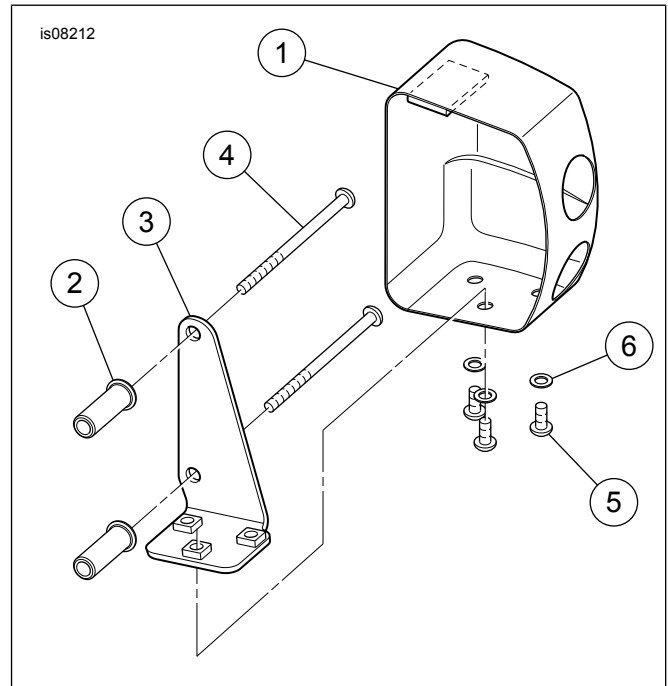

Figure 1. Service Parts
See Figure 1 and Table 1.
4. See Figure 1. Obtain the coil cover bracket (3), two long screws (4) and two spacers (2) from the kit.
7. Obtain the new chrome coil cover (1) from the kit. Position the cover over the coil, and fasten to the coil cover bracket with the three chrome screws (6) and washers (7) from the kit. Do not fully tighten the screws at this time.